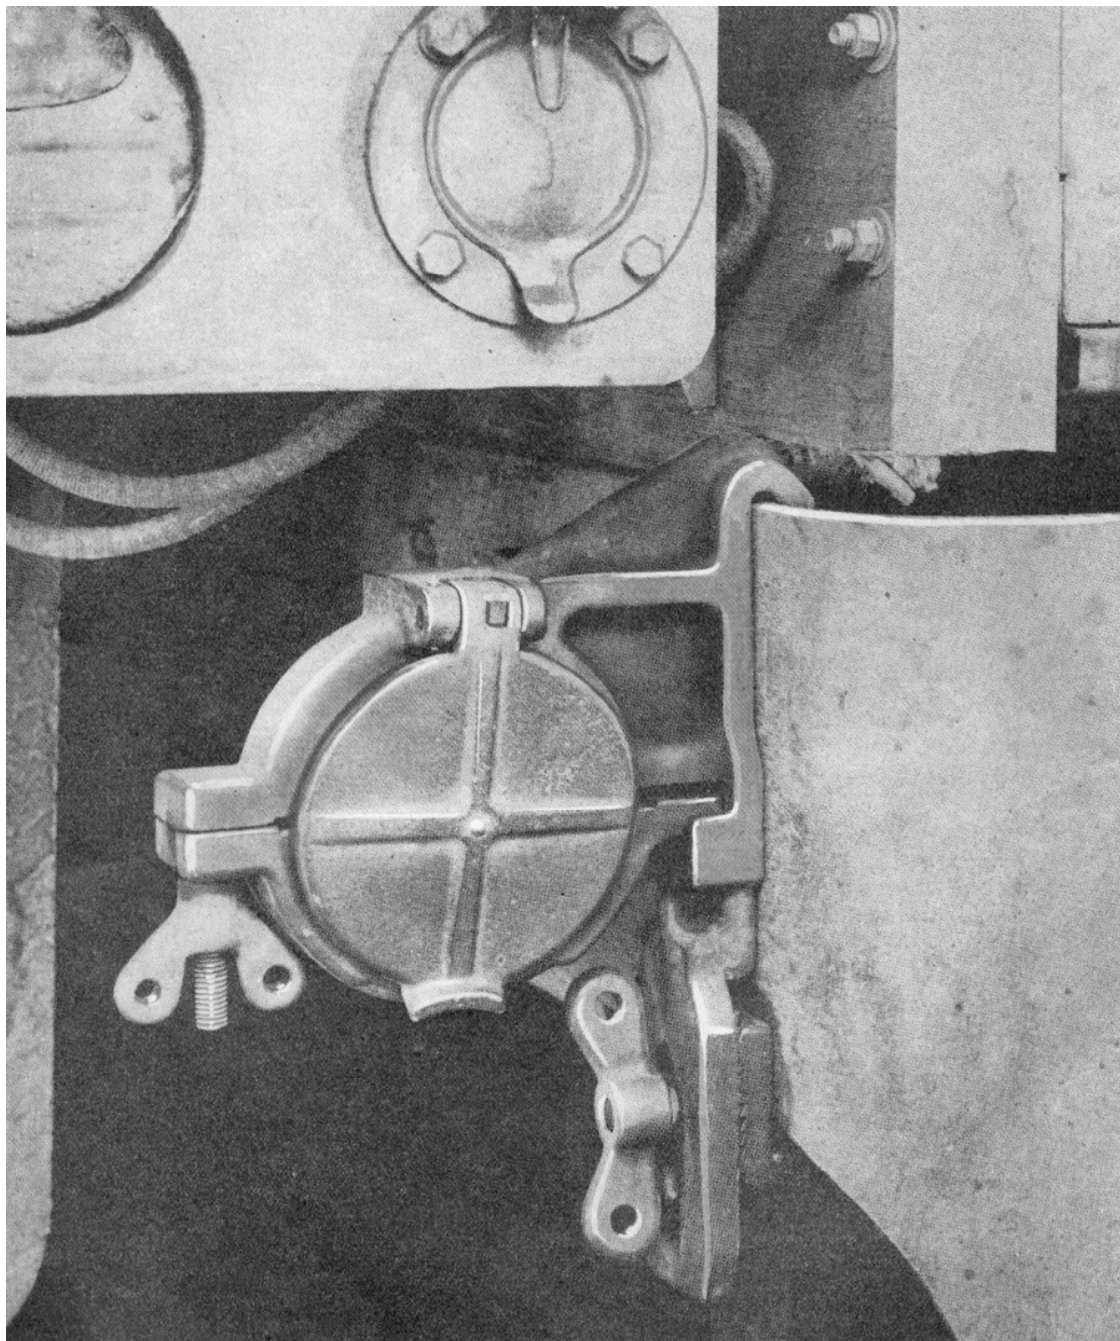

Figure 12—Bumper bracket for Cord CO-335, installed on bumper of 2½ ton 6x6 truck
(5) Attach the bumper bracket for Cord CO-335 to the left-hand bumper at the rear of the truck as shown in Figure 12. No holes need be drilled in the truck, but if the truck body is of wood it will be necessary to chip away a small amount of wood from the floor beam which extends over the bumper.
(6) Extend Cord CO-335 through the hole and clamp in the rear of the shelter. Bring the outer plug down behind the truck body and clamp it into the bumper bracket.
(7) Attach the flexible section of the speaking tube to the fitting at the front of the shelter and route the speaking tube into the lefthand truck window. Hook mouthpiece of the speaking tube to any point on the inside of the truck convenient to the driver.
(8) Attach one end of each of the two ground straps provided to the terminal at the front and at the rear of the shelter respectively. If the truck has a metal body, bolt the other end of the ground straps securely to the nearest available point; or if the truck has a wood body, run the ground straps down to the nearest points on the chassis and clamp them securely.
(9) Couple the Trailer K-52-E to the rear of the truck and plug in Cord CO-316 to the receptacle clamped in the bumper bracket.